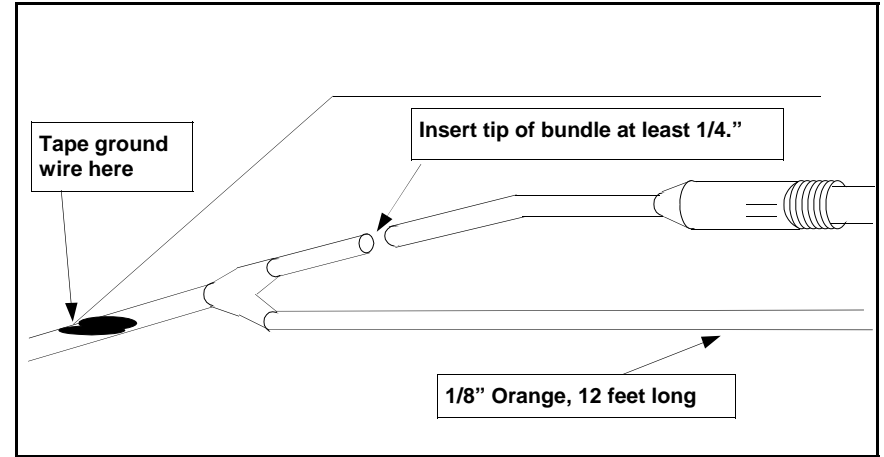
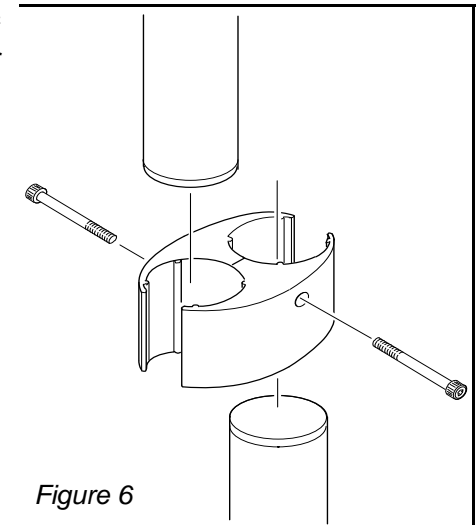

Figure 7
Figure 6
6. To install the light post extension (Figure 6):
Use figure 6 if your foot control has 4-hole tubing. Use figure 7 if it has 5-hole tubing.